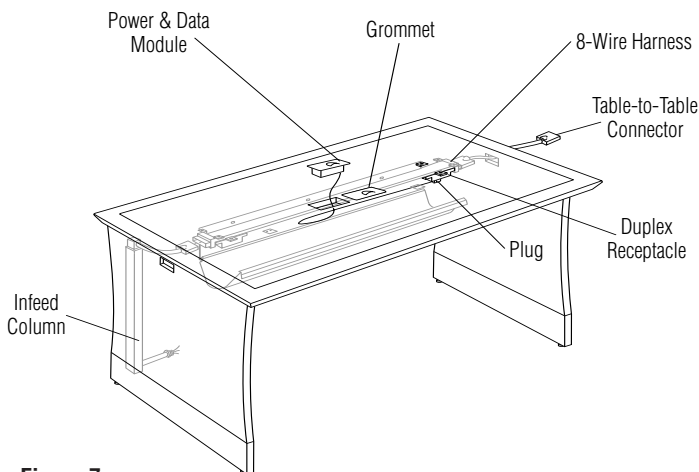

Figure 7
8. Flip table upright. Insert power and data modules. Plug cords into duplex receptacle (Figure 7).